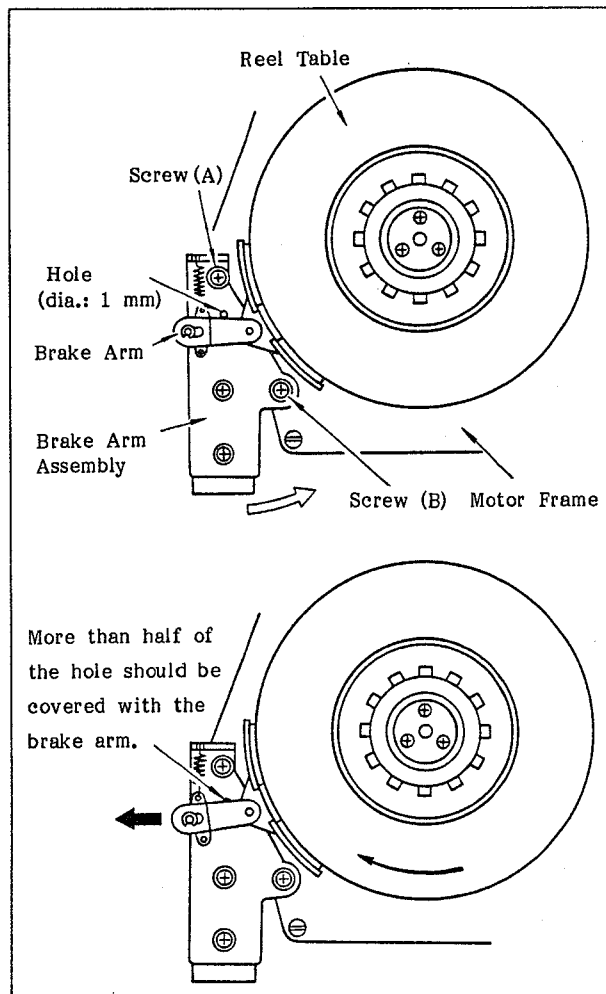

Fig. 6-35 Adjusting the Brake Torque
7. Mount the brake arm assembly on the motor frame and hold it with two screws (PSW2.6 x 5). Leave screw (B) loose enough so that the brake arm assembly can be moved easily around screw (A), as shown in Figure 6-35.
8. Mount the brake arm assembly so that the one-millimeter diameter hole looks as if it were contact with the brake arm when viewed from the top, as shown in Figure 6-35, and then fasten it firmly with screw (B).
10. Loosen screw (B) enough so that the brake arm assembly can be moved slightly in the direction of the arrow, as shown in the upper drawing of Figure 6-35, and then tighten screw (B). Perform step 9 again.
11. Tighten the two screws, (A) and (B), securely.
12. Rotate the reel table clockwise (in case of the T brake arm, rotate the reel table counterclockwise) so that more than half of the hole is covered with the brake arm. Confirm that the compression spring in the brake arm still has room to move when the brake arm is pushed in the direction of the arrow, as shown in the lower drawing of Figure 6-35. If the spring has no room to move, loosen screw (B) and slightly move the brake arm assembly in the opposite direction of the arrow shown in the upper drawing and then tighten screw (B). Then, perform step 9 again.